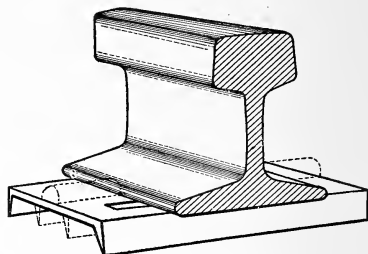

FIG. 74.—Servis Tie Plate.
**Tie plates.** ably by the use of a tie plate of the type known as the "Servis" (fig. 74), a device which long since passed the experimental
stage. In this form, the plate is made from a piece of steel whose longitudinal outside edges are sharpened and bent downwards at right angles. Sometimes intermediate ribs and a rail brace are added, but these are not essential and it is quite doubtful if they increase the value of the plate; they are shown as dotted lines in fig. 74. The first object of the tie plate was to preserve the tie from the pounding and crushing effect of the rail, but time developed other qualities of almost equal value. The lateral strength of the track was much increased by the support which the plate offered to the spike. It is of course on curves that this action is most plainly seen, but even on tangents it may be noticed, particularly where track is not maintained in good surface. Simple as it is, this little piece of metal has rendered immense benefits to the railroads of the United States. Tie plates of flat metal had been tried many times but they failed in every case, either because they were too thin and buckled, or because they were too thick and acted as anvils; and in either they were loose and permitted abrasion of ties